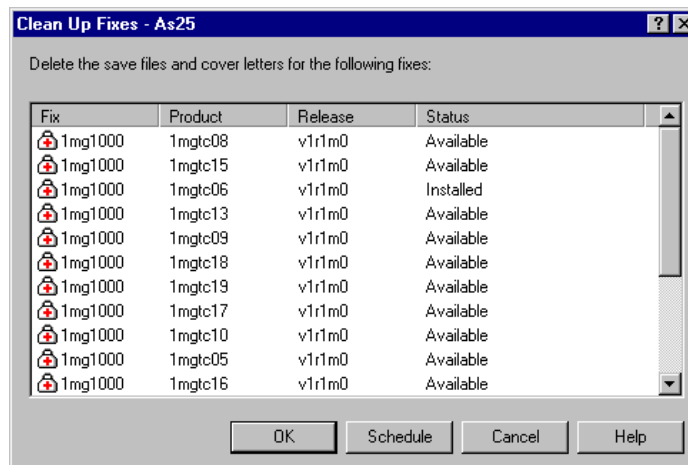

Figure 105. Clean Up Fixes window
5. Right-click on the last fix, and then click on **Clean Up** to view the window as shown in Figure 105.